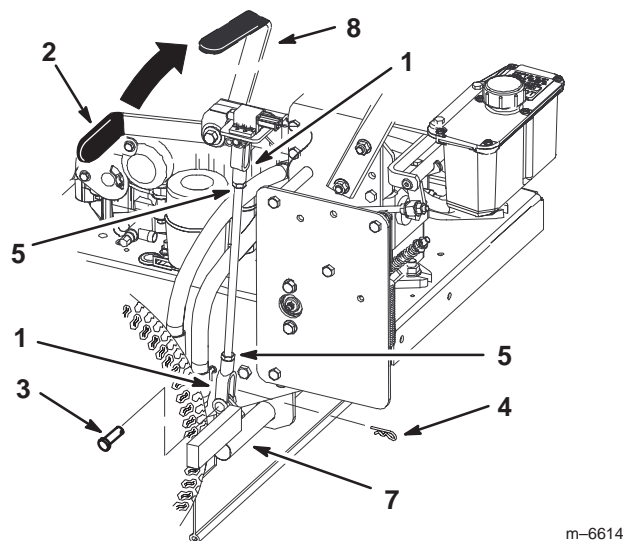

Figure 59
The brake handle is on the left side of machine (Fig. 59). If the parking brake does not hold securely, an adjustment is required.
3. Loosen the top and bottom jam nuts (Fig. 59).
4. To adjust the brake, remove the hair pin cotter and clevis pin from the lower brake lever (Fig. 59).
5. Rotate the brake rod in the yokes. To tighten the brake, lengthen the rod between the yokes. To loosen the brake, shorten the rod between the yokes (Fig. 59).
6. Secure the yoke to lower brake lever with the hair pin cotter and clevis pin (Fig. 59).
7. Tighten the top and bottom jam nuts (Fig. 59).